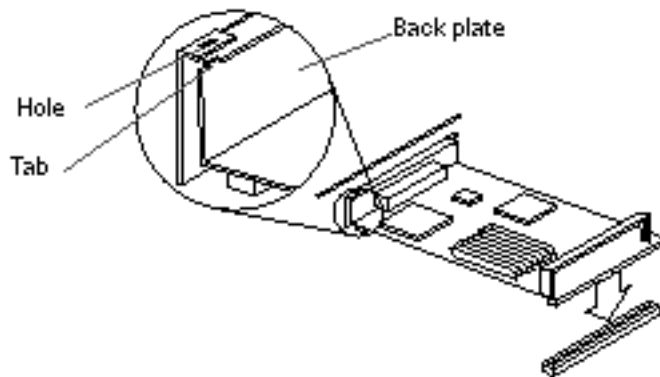

Figure 11-3 Positioning the SBus Card
**5. Align the mounting plate of the new SBus card with the rectangular opening in the system unit's back panel (see Figure 11-3 and Figure 11-4).**